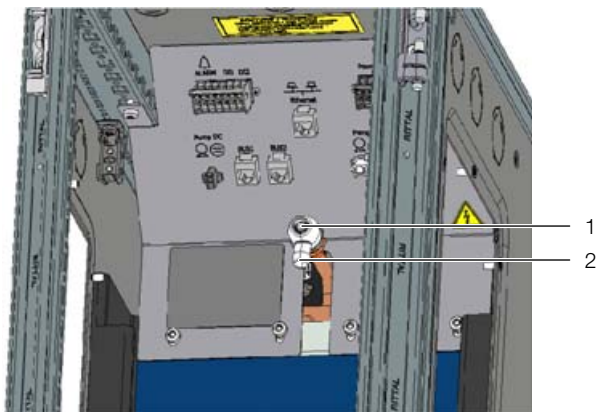

Fig. 74: Bleeding the air from the heat exchanger
- Connect the drainage hose, included with the accessories, on the top at the vent valve on the plug connector (fig. 74, item 2).
- Open the vent valve (fig. 74, item 1) with the square key supplied.